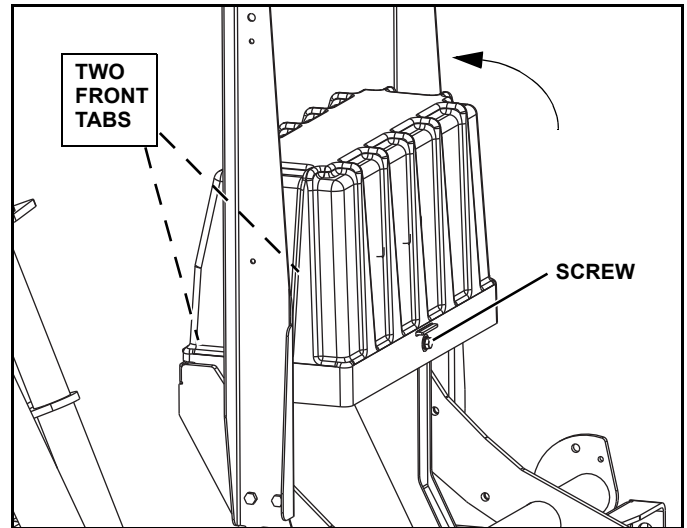

Figure 2-4
3. Remove the screw at the lower back center of the pump cover. Pull the back of the pump cover of the rear tab and rotate the cover slightly forward. Push the cover off the two front tabs and remove (See Figure 2-4).